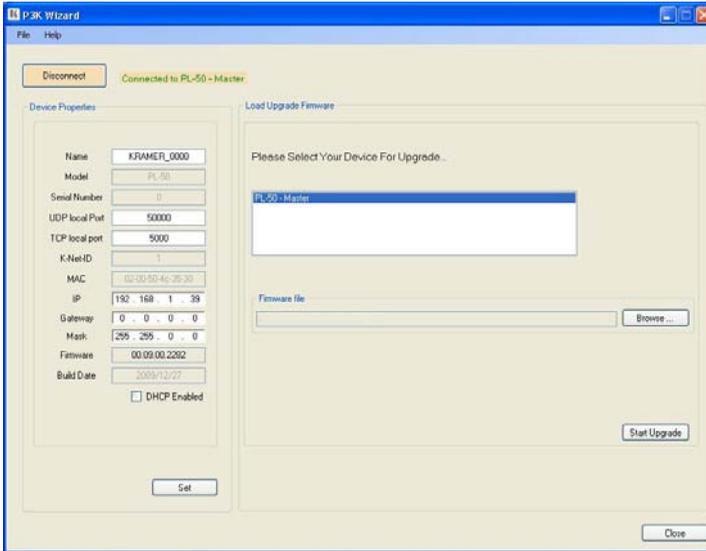

Figure 30: Device Selection
**Note:** To upgrade **BY NAME**, the device must be DHCP Enabled (see Figure 30)